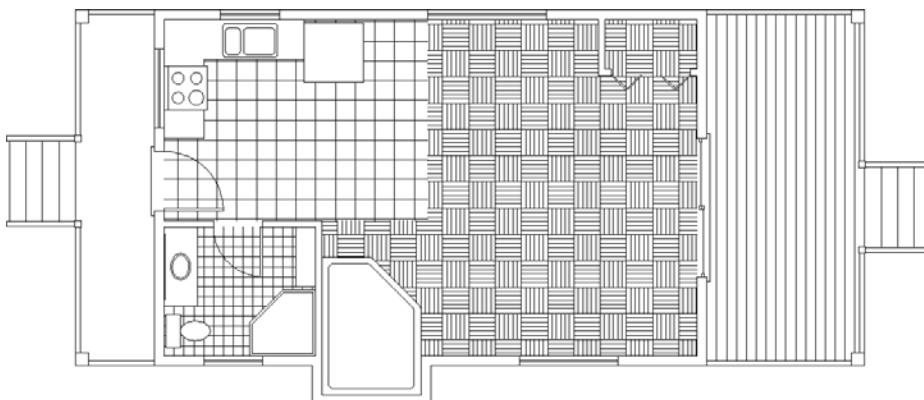

FIGURE 11.23 The user-defined hatch pattern on the front deck
14. Assuming the preview looks like Figure 11.23, click to insert the hatch into your drawing, and press ↵ to end the HATCH command.